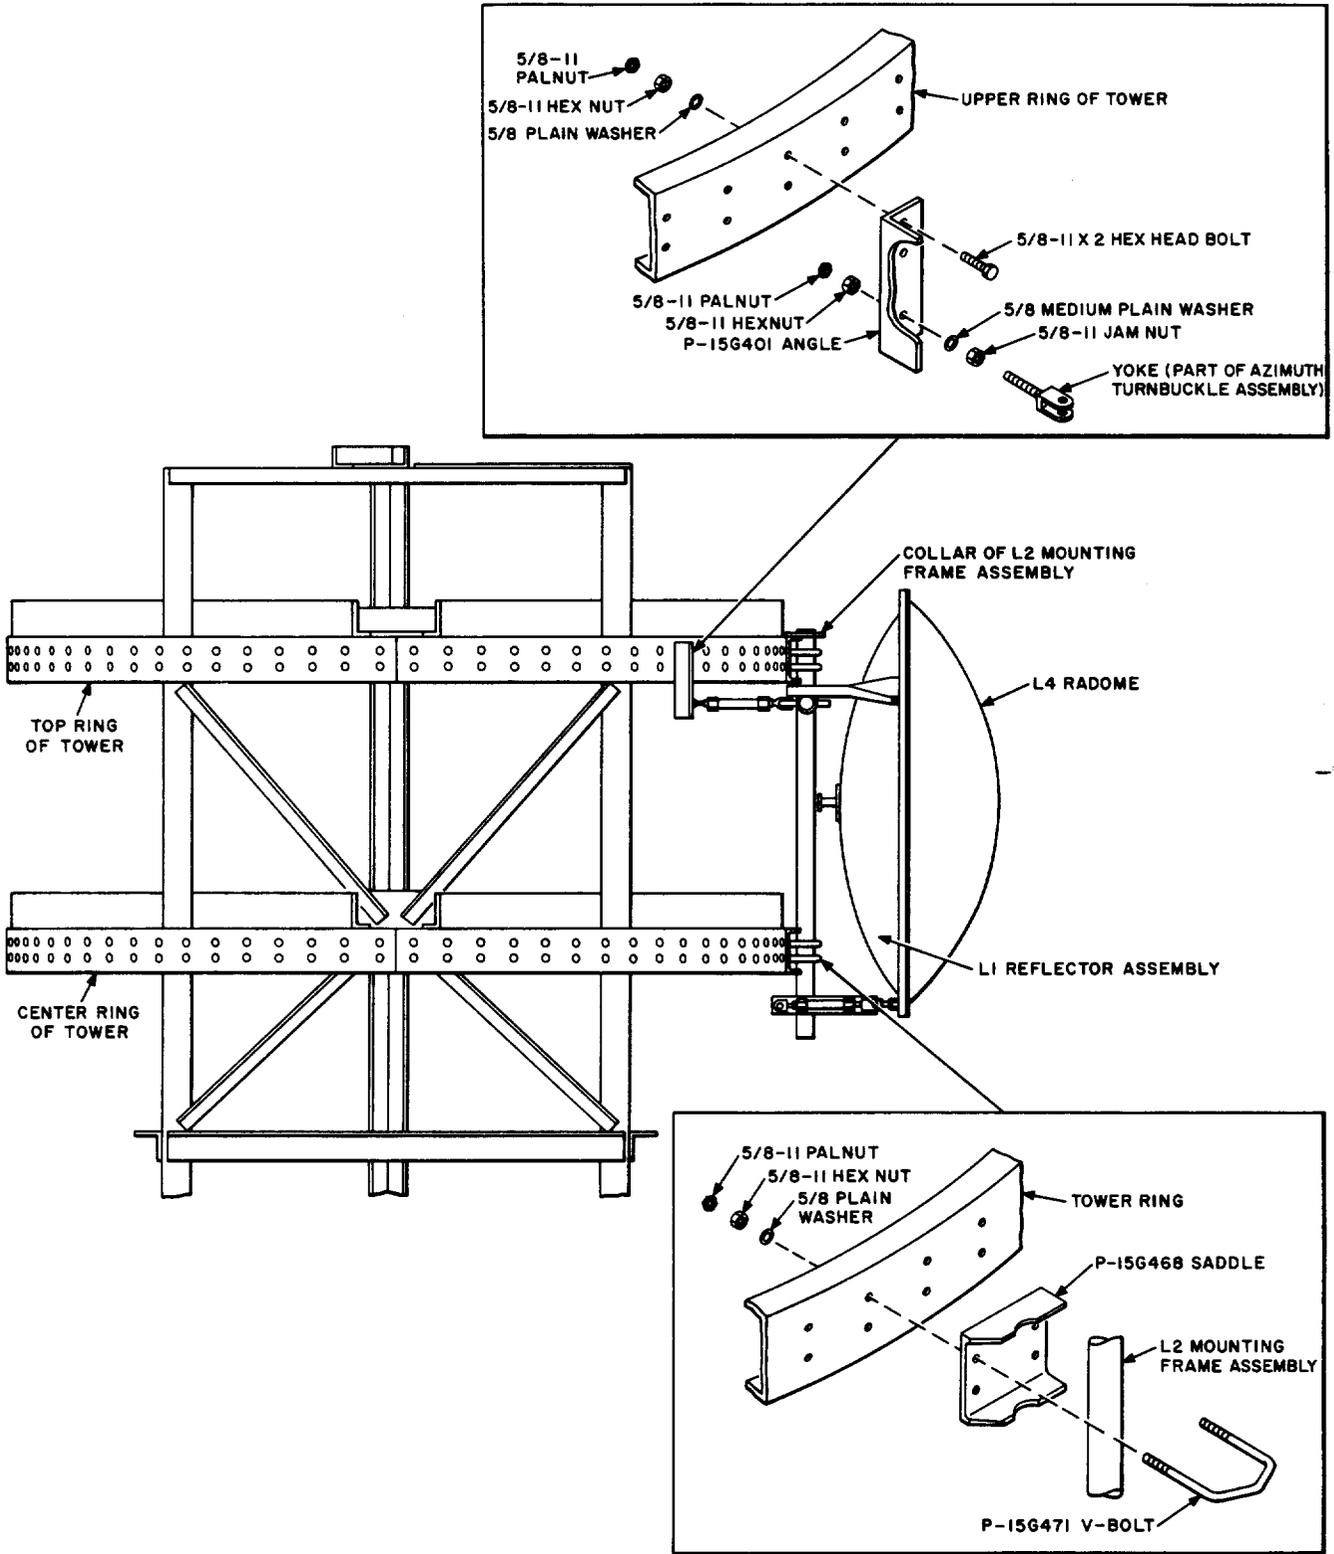

Fig. 7—Mounting on B Self-Supporting Tower
Place two P-15G468 saddles between the vertical member of the mounting frame assembly and the top and center mounting rings of the tower (Fig. 7). The collar of the mounting frame assembly should rest on top of the upper saddle.
5.16 Attach the saddles and the mounting frame to the tower rings using the two P-15G471 V-bolts, four 5/8 plain washers, 5/8-11 hex nuts, and Palnuts as shown in Fig. 7. Do not tighten securely until the azimuth adjusting arm is installed and the antenna mechanically oriented.
Fig. 7. Swing the turnbuckle and angle to the circular ring and attach the angle to the nearest set of holes on the ring. Minor adjustment may be necessary for hole alignment.